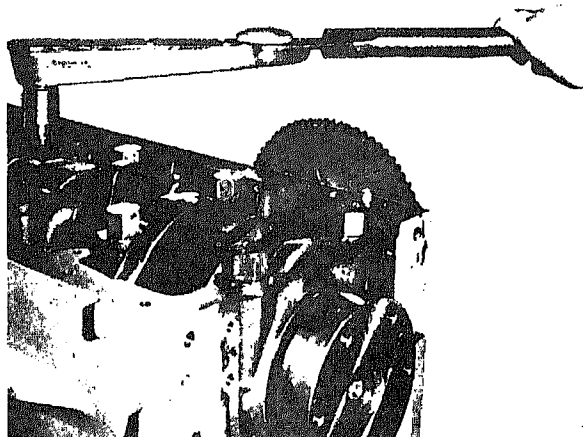

Fig. 1-1-9. Tighten main bearing capscrews
- Assemble main bearing caps, lockplates or flatwashers and capscrews to block in operating position, Fig. 1-1-9. Tighten capscrews to operating tension; see "Parts Replacement and Repair"